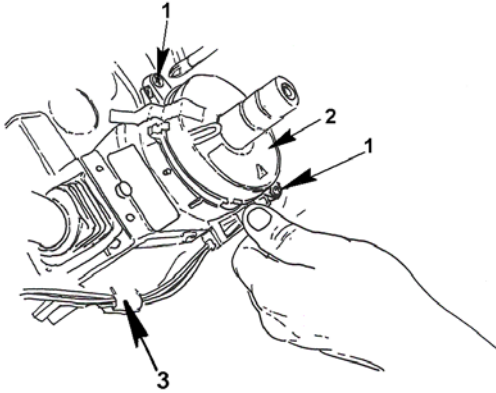

Figure 75 Clock Spring Harness and Attachment Tabs
2. Remove Phillips head screws (Figure 75, Item 1) from tabs.